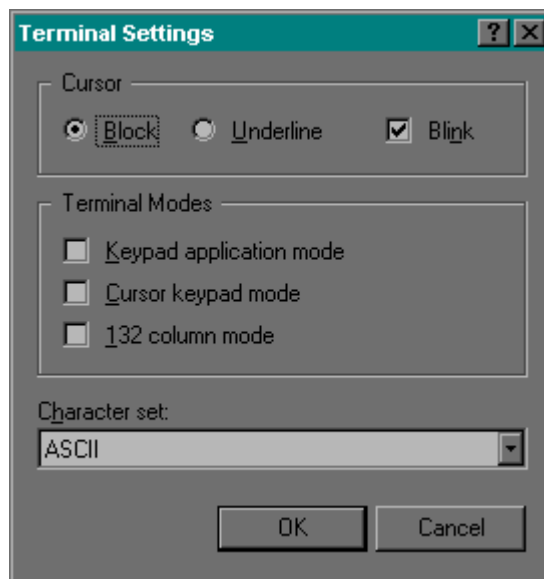

Figure 4-18. Terminal Settings window
13. Click on Terminal Setup. This will bring you to the Terminal Settings window as shown in Figure 4-18. Setup your window with the same parameters as those shown in Figure 4-18.